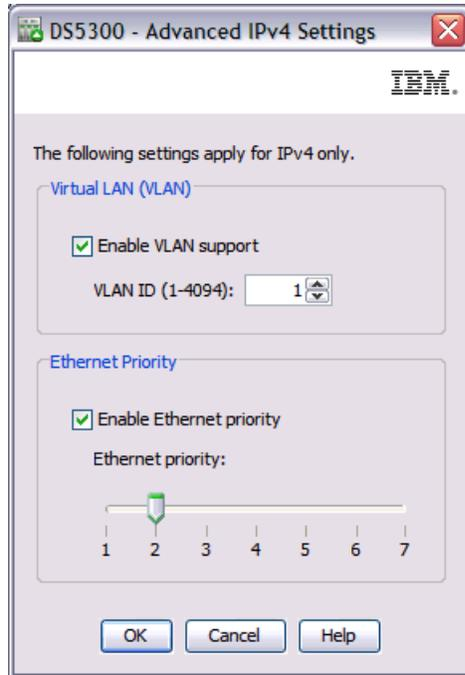
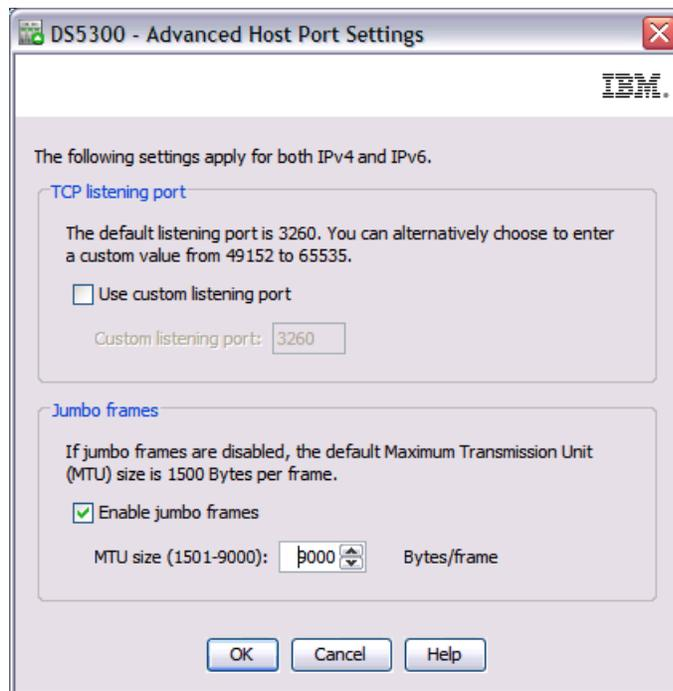

Figure 3-29 VLAN and priority
Figure 3-30 Jumbo frames
2. Select an iSCSI host port, select Ethernet port speed, and assign the IP address, mask, and gateway as usual with all Ethernet cards, in either of the IPv4 or IPv6 tabs. If you are planning to use VLAN Tags (802.1Q), or set Ethernet priority (802.1P), click **Advanced IP Settings** to define them, as shown in Figure 3-29. Repeat the process for at least one port in controller A, and one port in controller B.
3. If you plan to use Jumbo frames, click **Advanced Host Port Settings** to enable it and select the frame size to either 1500 or 9000 Bytes. Here you can change the default TCP port 3260 for any other port. See Figure 3-30.
Set Jumbo Frames, VLANs, and Ethernet priority in the iSCSI adapter in accordance to the settings specified in the DS5000 Storage Manager in Figure 3-29, “VLAN and priority” and in Figure 3-30, “Jumbo frames” on page 125.